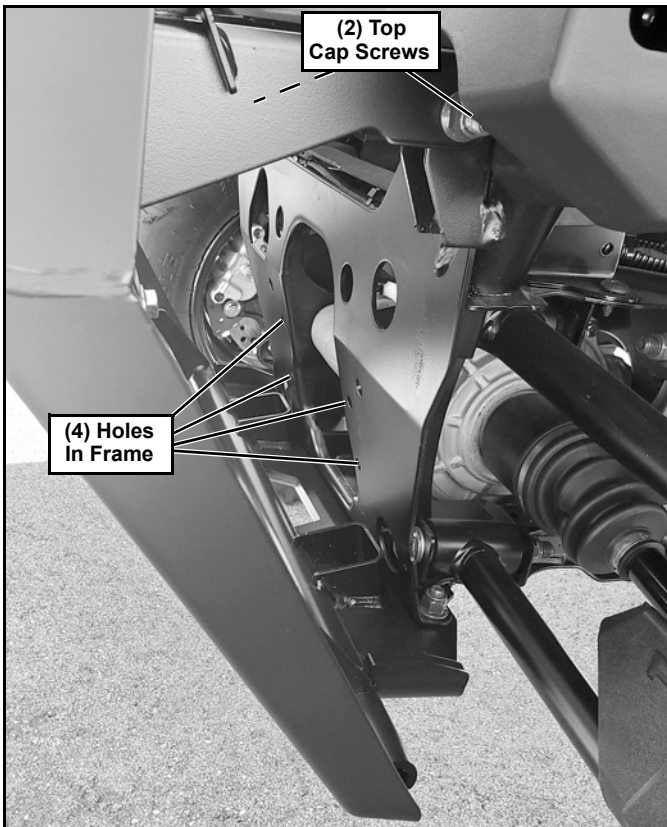

Figure 2
2. Behind the Brush Guard are four holes in the frame (See Figure 2). Align these holes with the holes in the Top Weldment (#2).